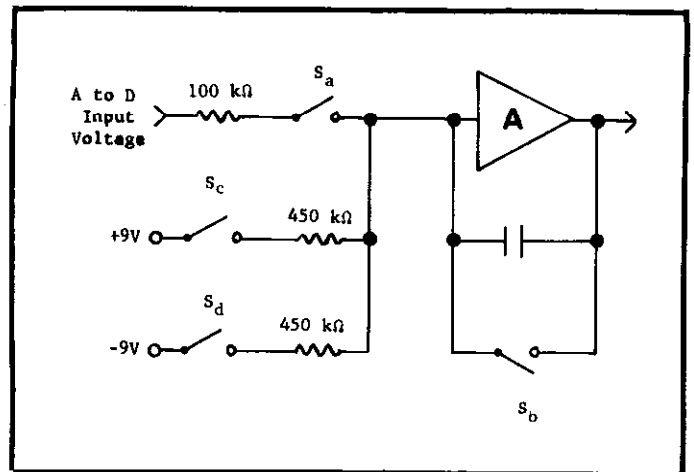

FIGURE 15. Integrator Block Diagram.
1. Zero Period. During this period the integrator amplifier is zeroed by the closure of switch S_b . Switches S_a , S_c , and S_d are open to prevent integrator charging as shown in Figure 15.